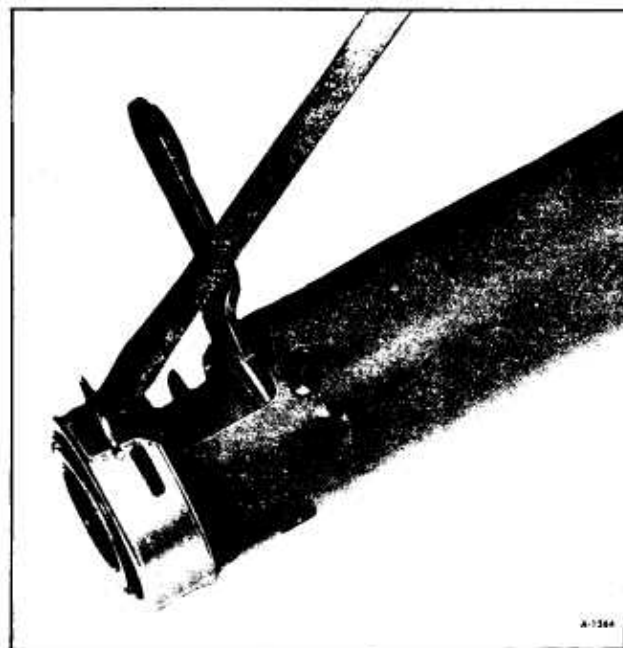

Figure 82—Removing Bearing Adapter Clip
3. Remove bearing adapter clip. (figure 82).